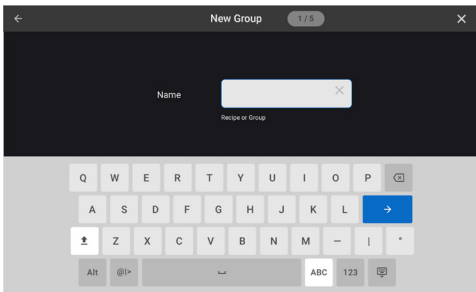

Figure 19: Name New Group
- 3. Input the group name and touch the blue arrow button to continue (Figure 19, below).